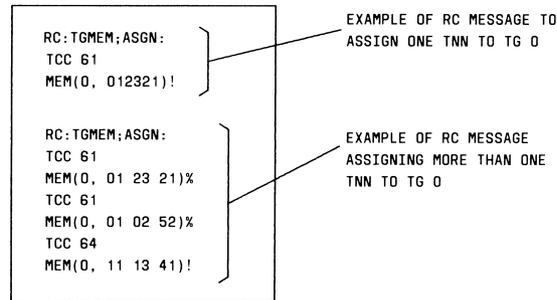

Fig. 23 — Example of Assigning Trunks to TG 0
- (1) Construct RC message per Table C and Fig. 23 to assign TNNs to TG 0.
- (4) Compare TR10 output message from Step (3) with data obtained from forms in Table D.
- (5) If incorrect data in memory, recheck RC message input data. If incorrect data resulted from RC message input, correct RC message and start over from Step (1).
- (6) Compare verification data in the TR10 output message with the TR14 output message. Insure that the TCCs are the same. If not, check forms for accuracy.
- (7) If TCC(s) are to be changed, unassign TNNs with incorrect TCC(s) per Step (8); then reassign TNN(s) with correct TCC(s) per Table C and Fig. 23 (refer to 7.1.7).
- (8) Unassign TNN(s) per Table E. Then verify TNN(s) using VF:TNNSVY message (refer to 6.1 for details).